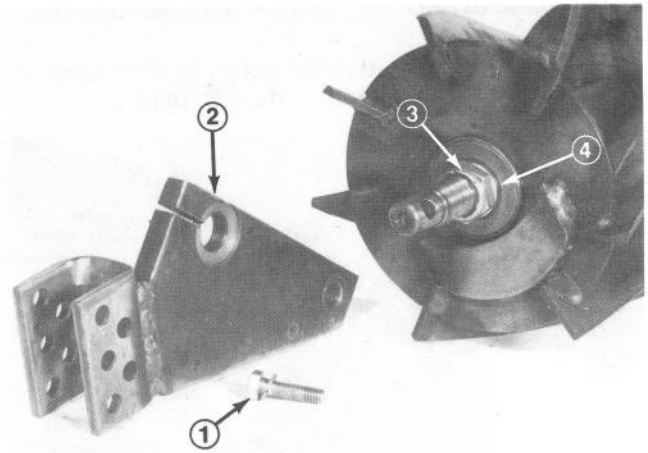

Figure 16
5. Loosen reel side plate clamp screw and thread side plate off reel shaft (Fig. 16).
6. Insert a large drift punch into hole in reel shaft and turn locknut off shaft. Remove wear sleeve, seal, bearing cone, bearing cup, grease retainer and shaft (Fig. 16).